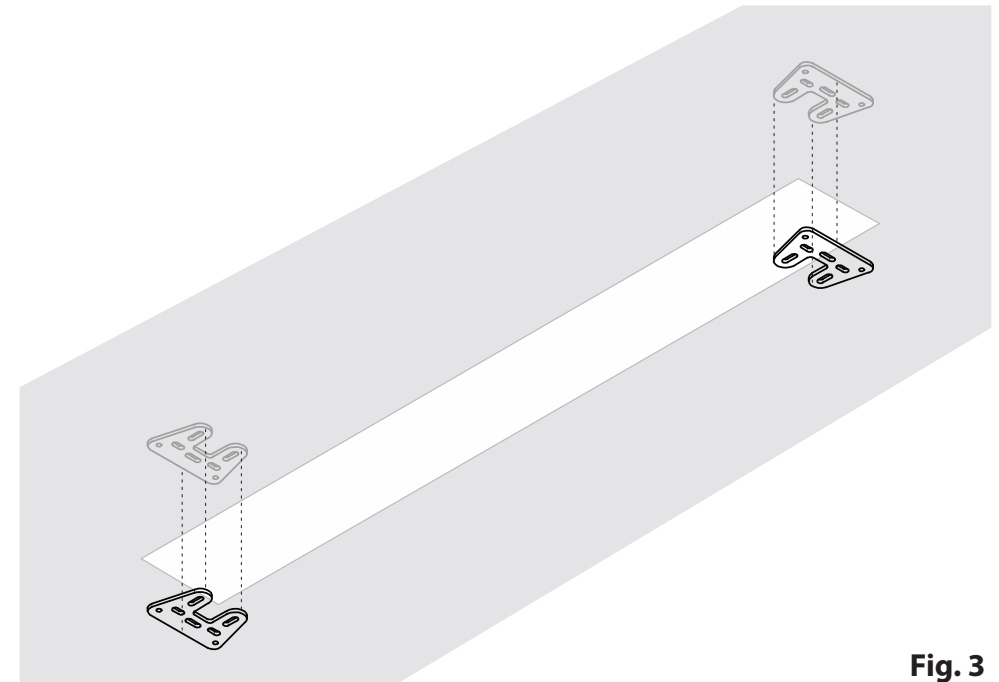

Fig. 3
5. For in main ceiling drilled holes screw the mounting base using the bottom end coupled dowels and screws (**Fig. 3**). **WARNING!** Wheel mounting delivered in a set can be applied to ceilings which are made of full material (eg, concrete, Suporex). When installing the screen to other than mentioned materials, an installer should find appropriate wheel mounting.